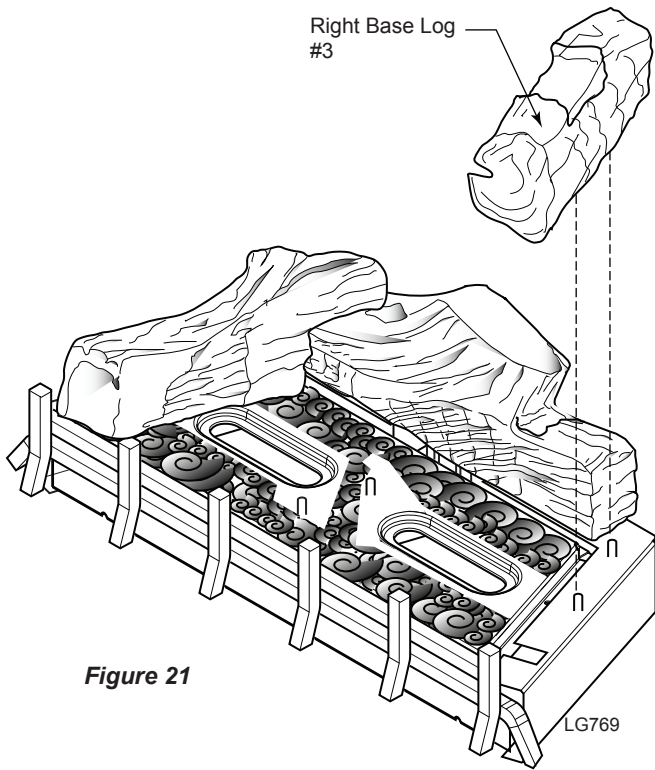

Figure 21
6. Align holes in bottom of right base log #3 with two (2) to the right of rear log. *Figure 21*